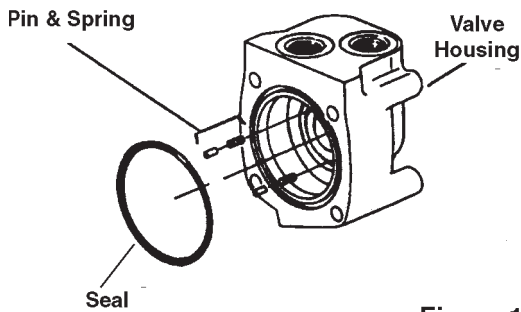

Figure 14
35. Install 2 springs and 2 pins in the holes located in the bore of the valve housing, as shown in fig. 14.